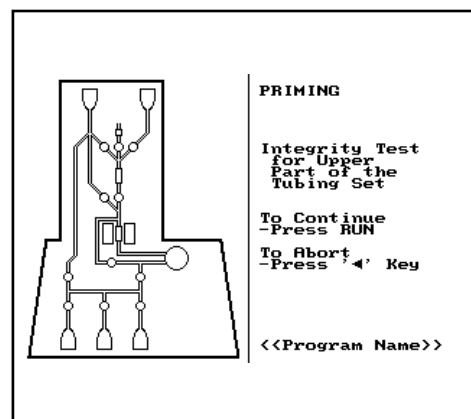

Figure 22: Screen no. 13.
4. The window will display screen no. 13 as shown in figure 22.